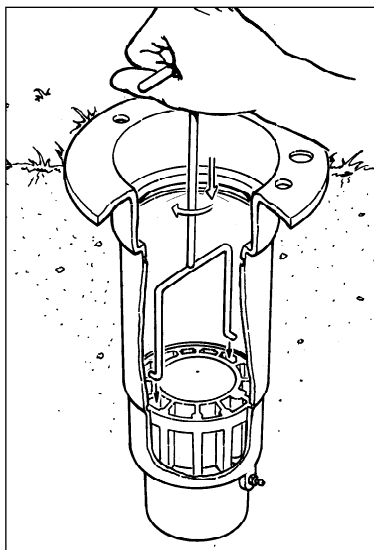

Figure 7
2. Use valve removal tool (P/N 995-08, 1" models or 995-09, 1.5") to remove valve assembly from base of sprinkler body. Valve Removal Tool is inserted into sprinkler body and pushed through valve ribs to the underside of valve. A slight twist will lock tool to valve enabling removal by pulling straight up and out. (See **Figure 7**.)